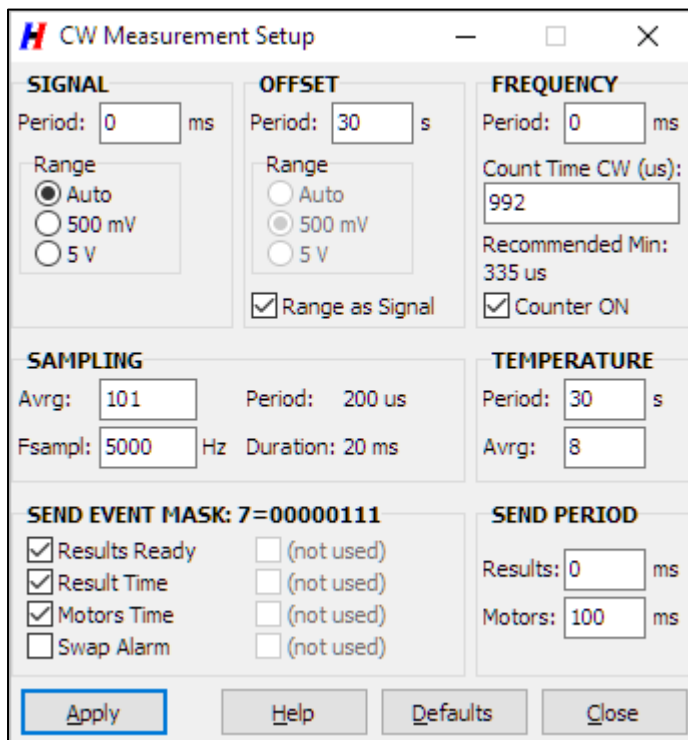

Figure 46. CW Measurement Setup window.
**CW Measurement Setup** window (Figure 46) contains an assortment of specific Homer commands (some also accessible from **Homer** menu). The window is chiefly meant as an aid in debugging user-written Homer control programs, however, it also provides a comfortable overview of some settings and enables their easy modification. Although titled *CW*, some settings are pertinent also to other **Waveform** settings.